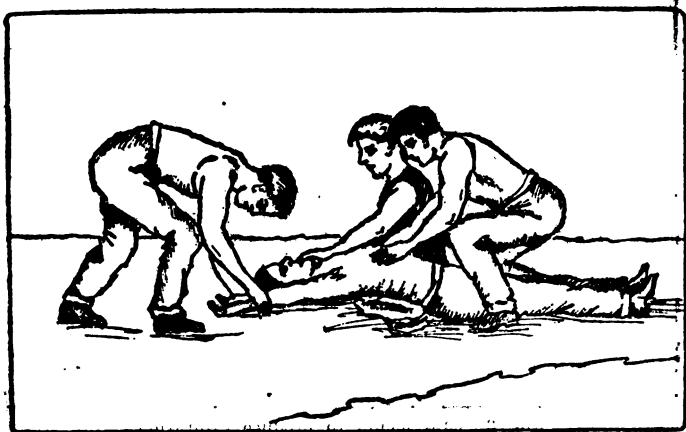

FIG. 2.—Movements to produce inspiration.
**RULE III. TO PRODUCE BREATHING** (see figs. 2 and 3).—Clear the mouth and throat of mucus by introducing into the throat
the corner of a handkerchief wrapped closely around the forefinger; turn the patient on the back, the roll of clothing being so placed as to raise the pit of the stomach above the level of the rest of the body. Let an assistant with a handkerchief or piece of dry cloth draw the tip of the tongue out of one corner of the mouth (which prevents the tongue from falling back and choking the entrance to the windpipe), and keep it projecting a little beyond the lips. Let another assistant grasp the arms just below the elbows and draw them steadily upward by the sides of the patient's head to the ground, the hands nearly meeting (which enlarges the capacity of the chest and induces inspiration), (Fig. 2.) While this is being done let a third assistant take position astride the patient's hips with his